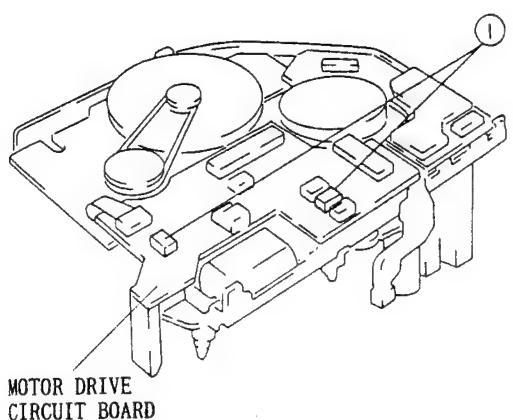

Fig. 2-51
1. Disconnect two (2) connectors (CN554, CN558) on the motor drive circuit board. (See Fig. 2-51)